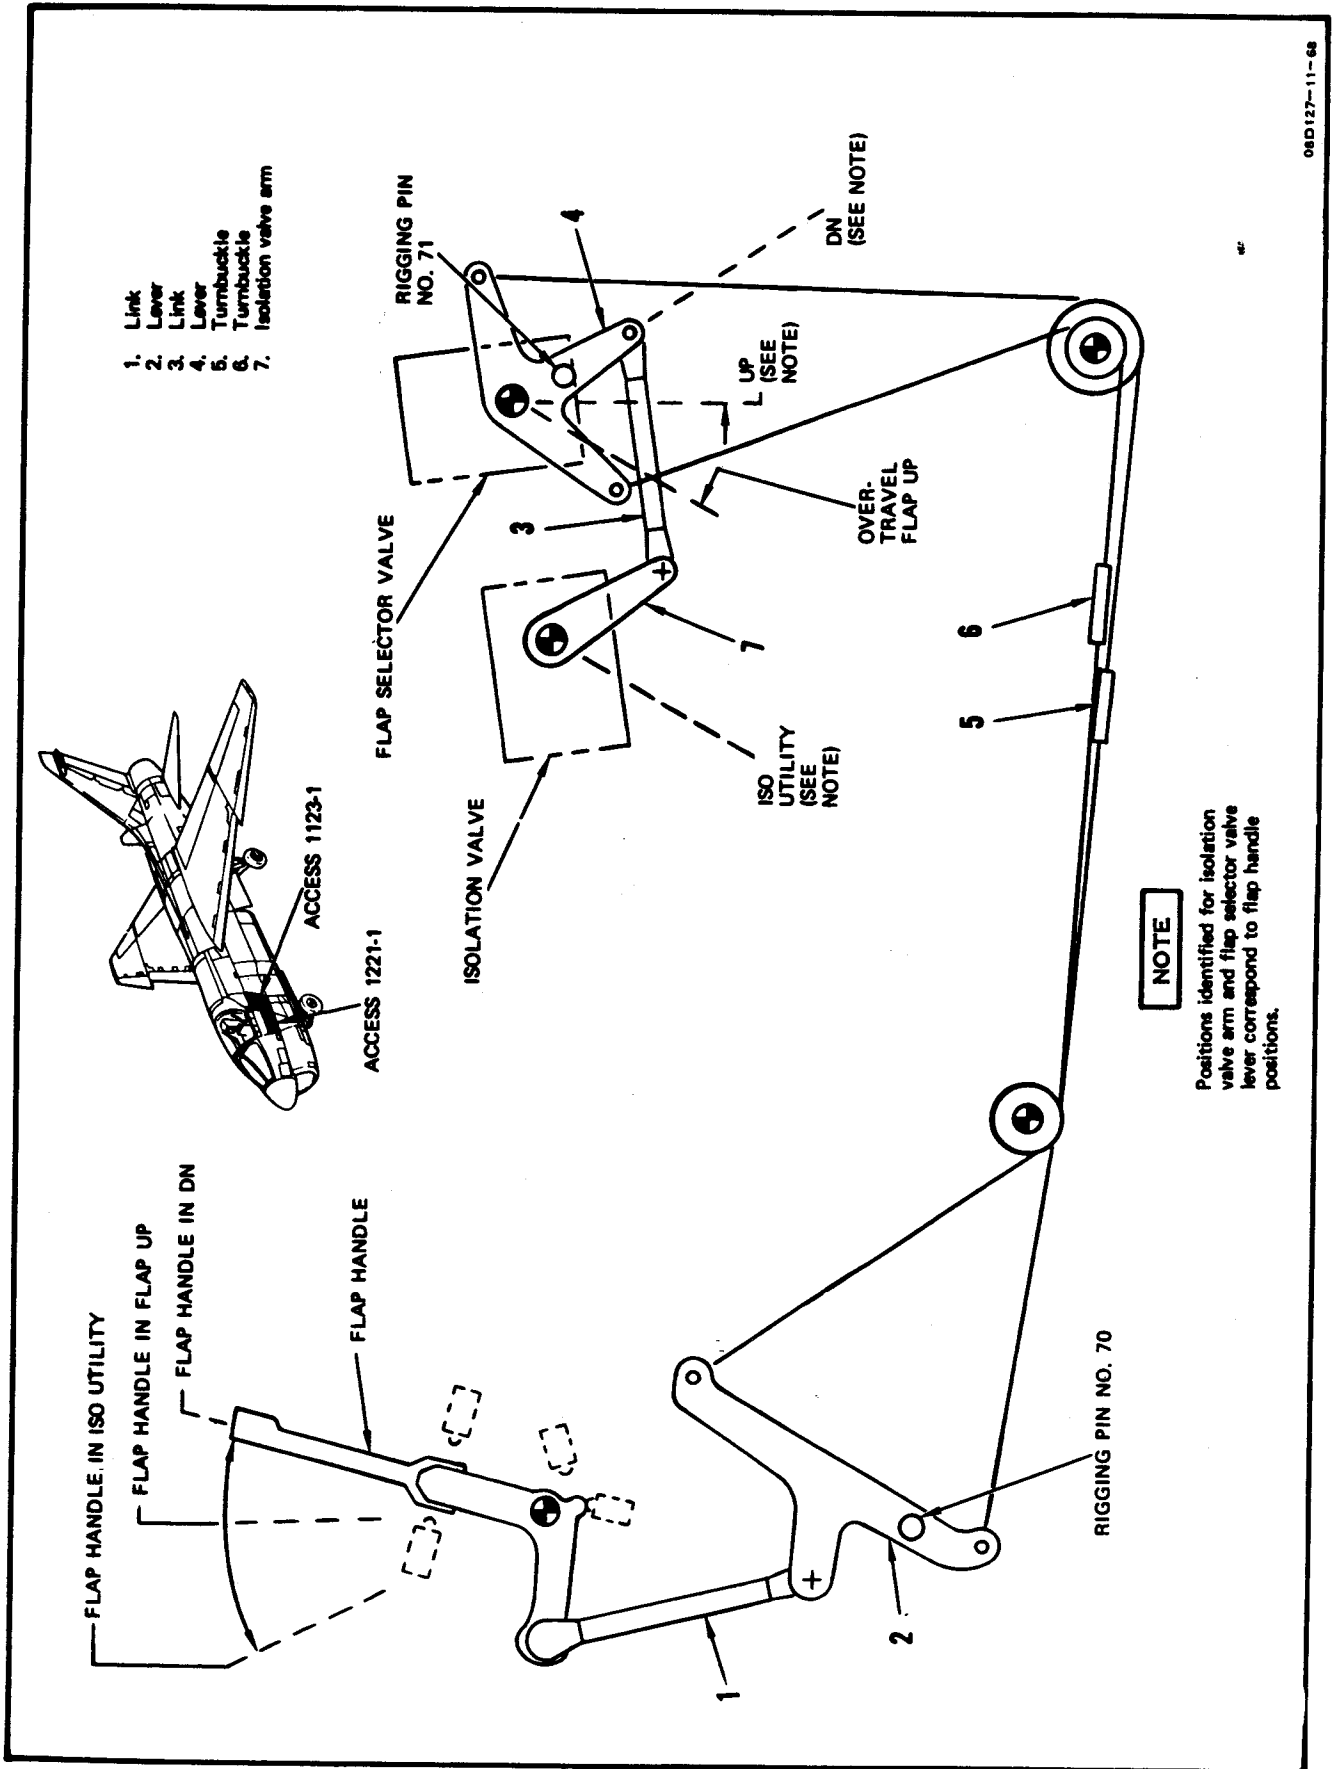

Figure 9-15. Rigging Flap Manual Control Linkage
**9-42. RIGGING FLAP MANUAL CONTROL LINKAGE.** (See figure 9-15.)